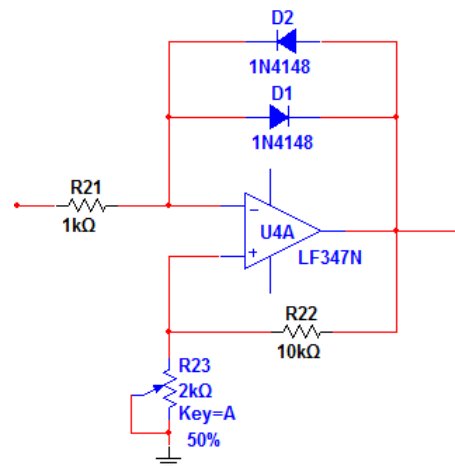

Figure 5-4 – Improved signal conditioning circuit employing hysteresis.
A more sophisticated improvement that can help increase the range of the system is to improve the sensitivity of the threshold detector circuit in our system. One possibility is shown in Figure 5-4. This resembles the original threshold detector, except now the reference level is derived from the output state. This means that the crossing
- Optional: modify your signal conditioning circuit as suggested in Figure 5-4.